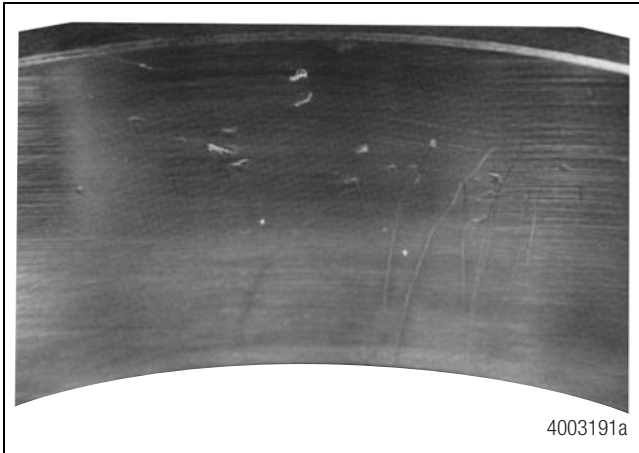

Figure 4.18
- J. The races or rollers are gouged or nicked. Figure 4.17 and Figure 4.18.